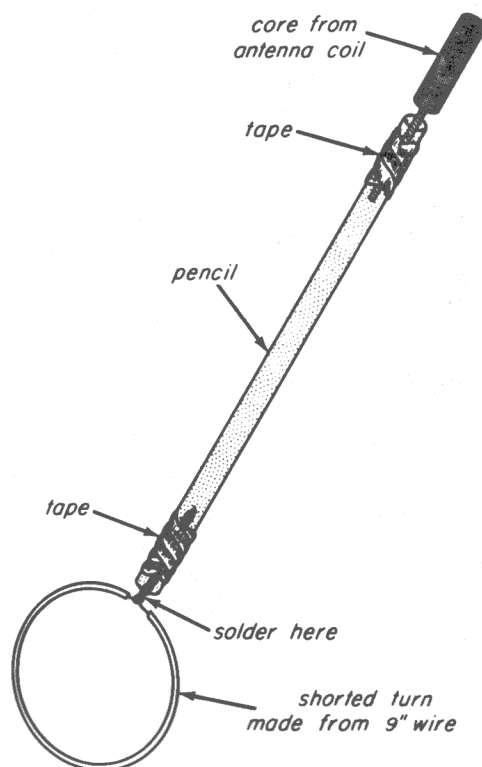

Fig. 33-7
The construction of a tuning wand is shown in Fig. 33-7. It consists of an insulating rod with a core or slug of magnetic material (usually powdered iron) at one end and a single shorted turn of wire at the other end. Other forms of tuning wands use slugs of brass or other *nonmagnetic* materials in place of the shorted turn. When the magnetic material is brought near a coil
Step 1. Cut a 9-inch length of hookup wire and strip $\frac{1}{2}$ -inch of insulation from each end. Form the wire into a circle, as shown in Fig. 33-7, twist the ends together, and solder them to make a shorted turn.
Step 3. Tape the core and the shorted turn to opposite ends of a pencil, as shown in Fig. 33-7, to make a tuning wand. Use a new or fairly long pencil, so that the core and shorted turn are well separated.